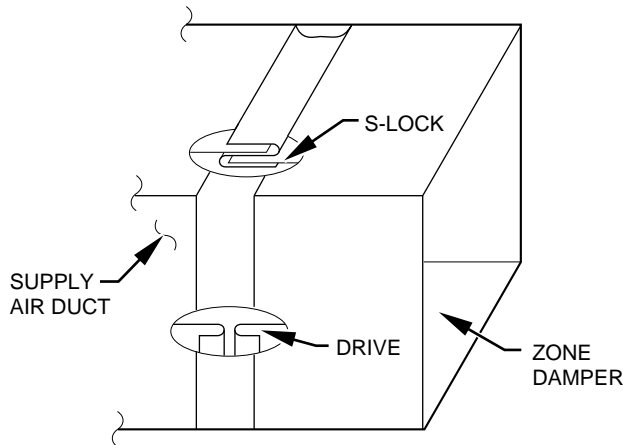

Fig. 6—Rectangular Metal Ductwork A92478
1. Make connections using S-lock and drives. (See Fig. 6.)